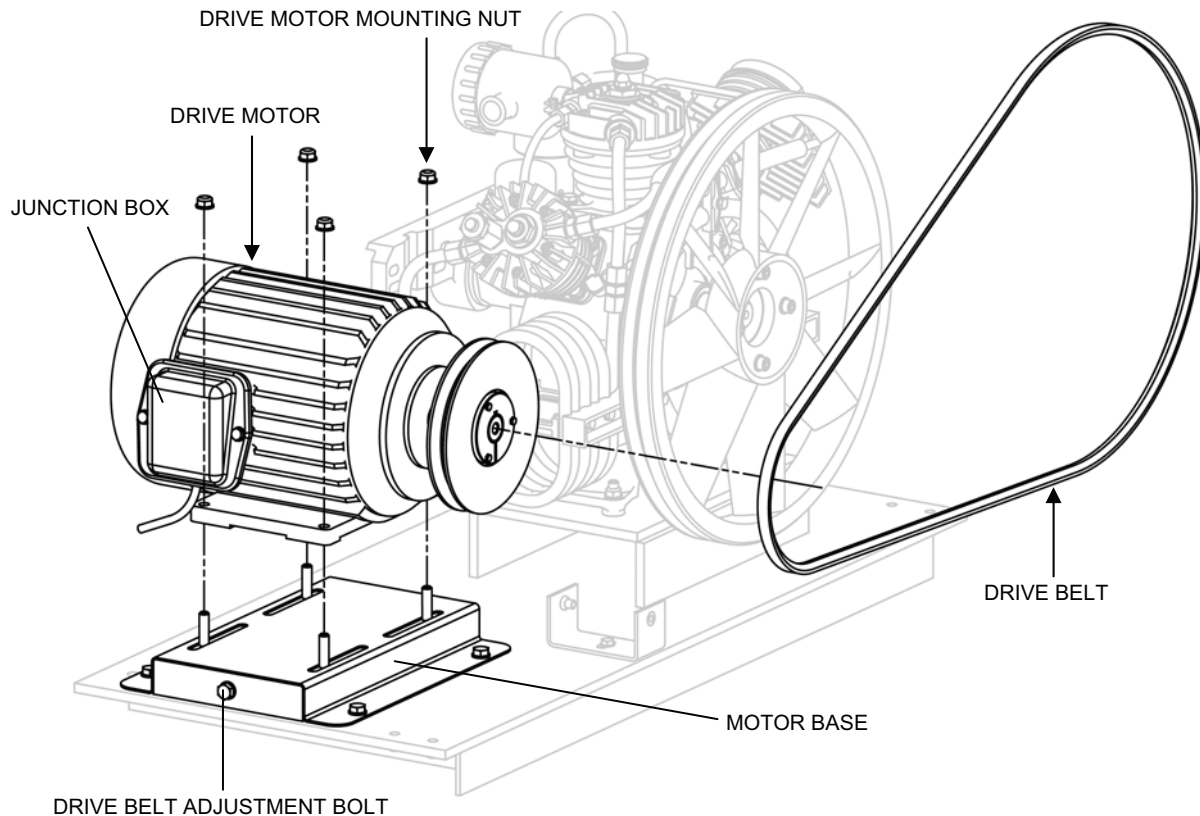

Figure 2. Drive Motor Removal.
3. Remove the drive motor as follows (see Figure 2):